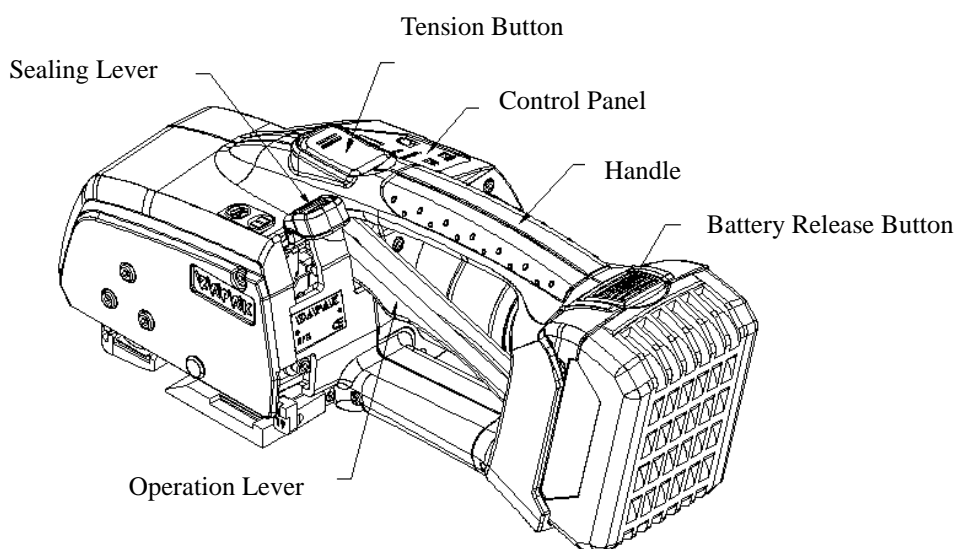

FIGURE 2. ZP93A/ZP97A Introduction of Operation Components
4.1 Introduction of Operation Components (Figure 2)